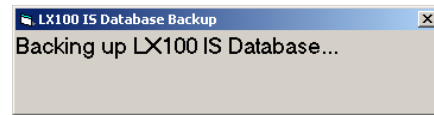

Figure 5-101 Database Backup Dialog Box
3. Click **Save**. The **LX100 IS Database Backup** dialog box opens informing you the backup is in progress to the specified location. See Figure 5-101.